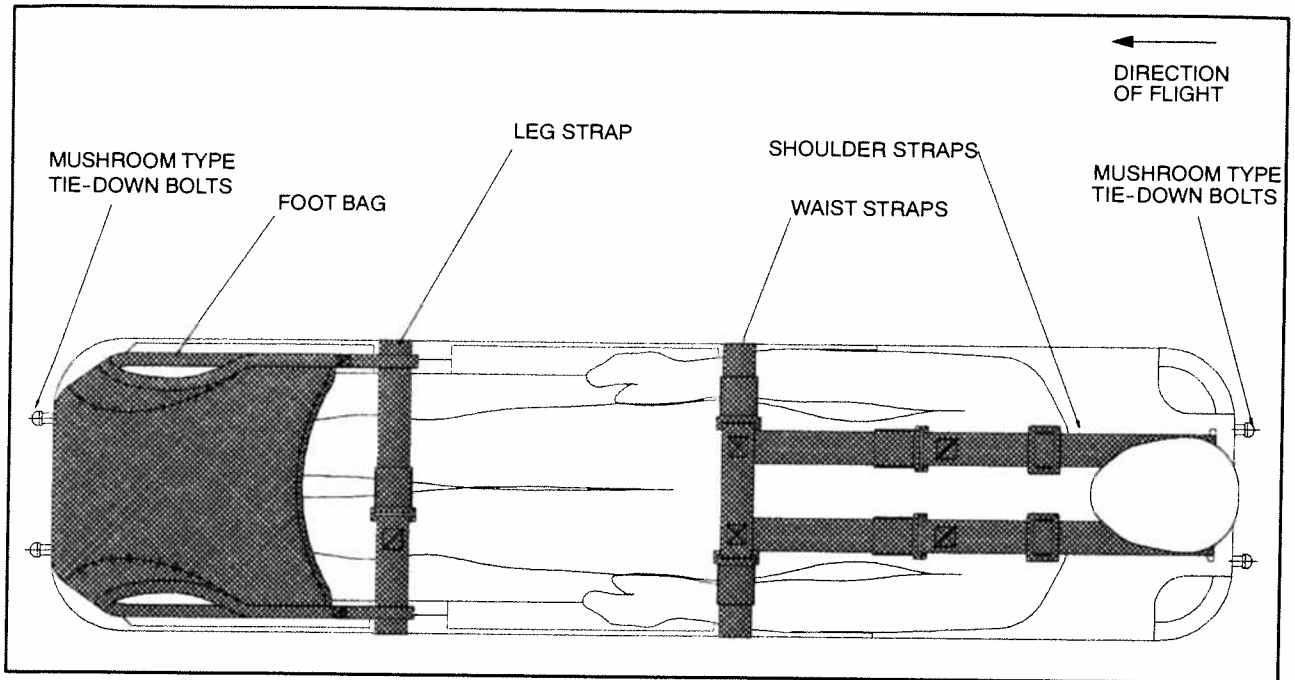

Figure 3 Litter Installation, Top View
1) Preparation of the Cabin (refer to Figure 3)
2) Installing the Litter (refer to Figure 3)
- Load patient and litter. Insert forward litter mushroom type tie-down bolts into forward bracket assembly, mounting holes. Refer to Figure 3.
- Slide aft litter mushroom type tie-down bolts into rear bracket assembly and secure using the locking bar and one (1) quick release pin. Refer to Figure 3.
3) Remove the Litter and Provisions (refer to Figure 3)